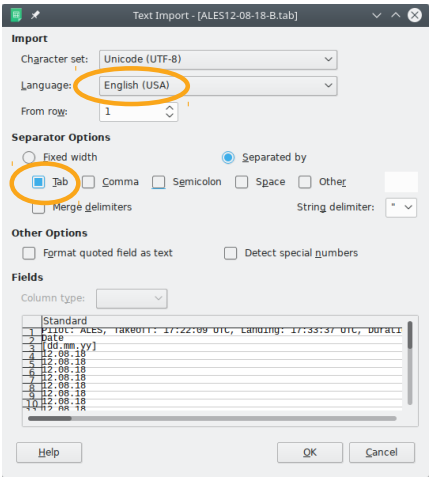

Figure 6.6: An example of Calc Text Import window.
5. Calc detects that a text file is being imported and it opens a window as shown in Figure 6.6. Please make sure that the *Tab* option is selected as the separator and *English (USA)* as the language. This makes sure that decimal values are properly imported.